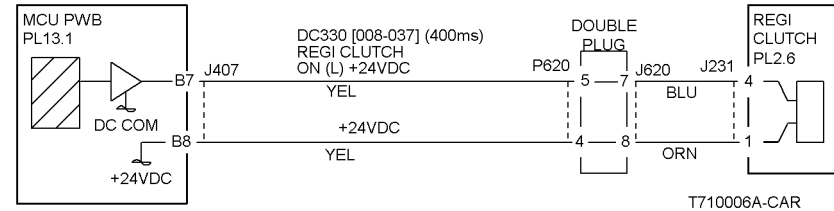
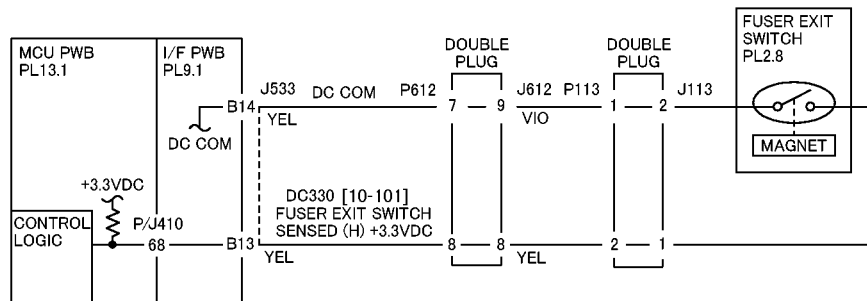

Figure 2 Registration Clutch CD
Figure 1 Fuser Exit Switch CD
- Ensure that the connectors shown in the circuit diagrams (Figure 1, Figure 2) are securely connected and that the wires are not damaged.